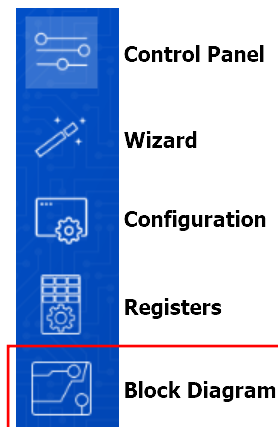

Figure 15. RICBox GUI Menu Buttons
- Click *Finish* and then the Block Diagram logo at side panel to go straight to the Block Diagram (see Figure 15).